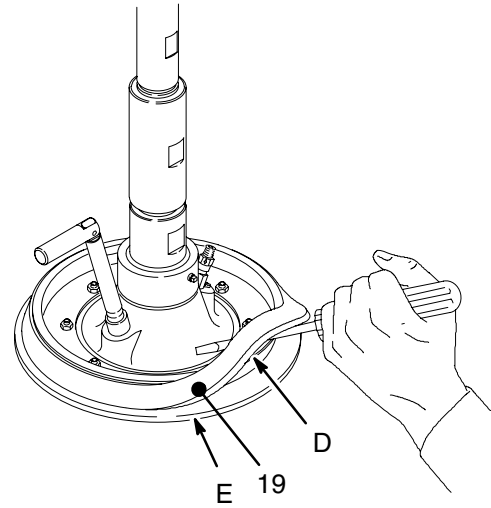
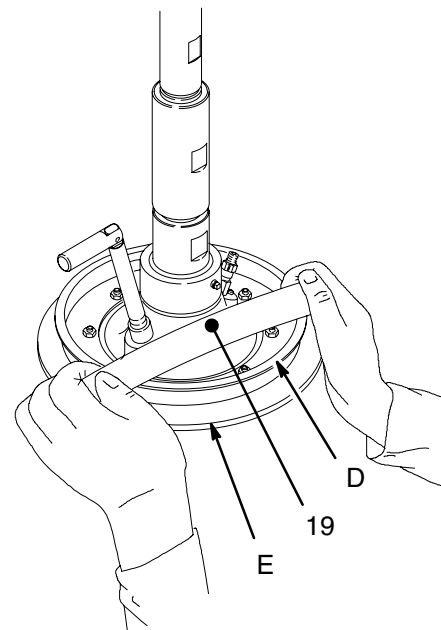
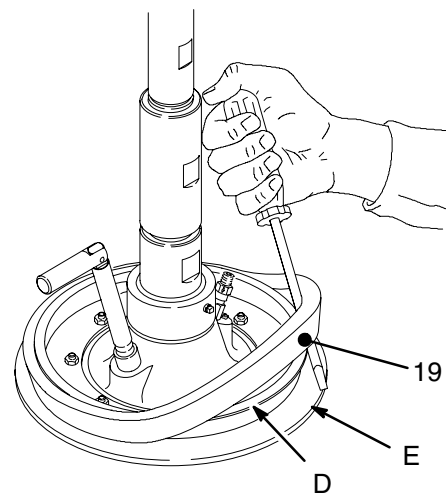

Fig. 2
Fig. 3
Fig. 4
- a. **To use the wiper plate with tapered pails**, the large spacer (19) must be removed. *Working from the bottom*, use a screwdriver to pry the spacer loose. Work it upward so it is completely above the flange (D) of the wiper plate. See Fig. 2. Next, by hand, angle the spacer and work it off the plate, pulling it down over the flange and bottom wipers (E). See Fig. 3. Save the spacer, as it is required for other applications.
- b. **To reinstall the spacer for use with a straight sided pail**, first make sure the large diameter of the spacer (19) is facing **down**. Work the spacer up over the wiper plate by hand, so it is completely above the flange (D) of the wiper plate. See Fig. 3. Then, *working from the top*, use a screwdriver to position the spacer between the flange (D) and the wipers (E). See Fig. 4.
4. Connect a 610 mm (24 in.), 1/4 in. (6.3 mm) OD nylon tube (F) with a 1/8 npt(f) fitting (H) from the ram's air assist tube fitting (G) to the air assist check valve (21) on the wiper plate.